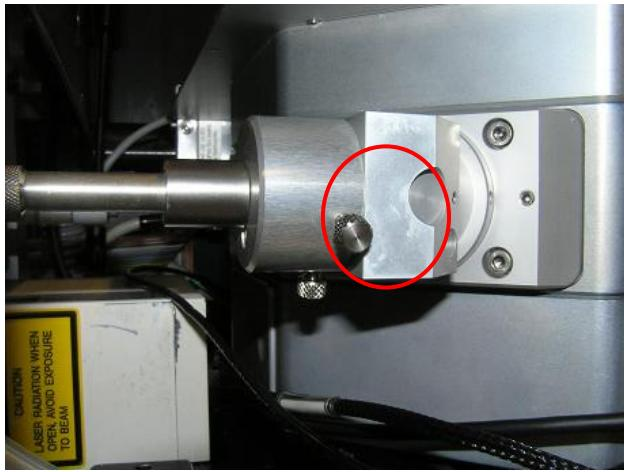
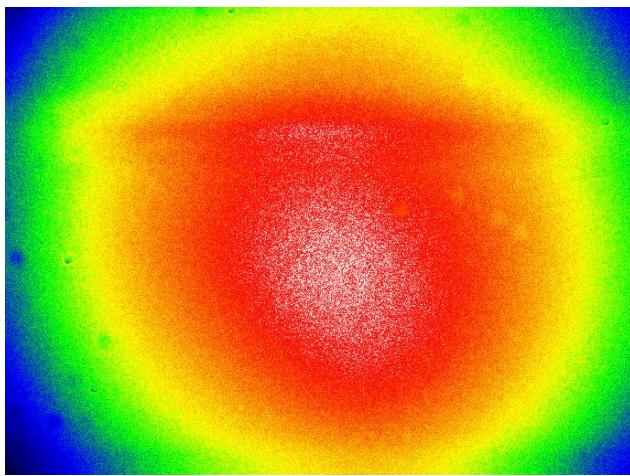

Figure 10: Adjustment screws for excitation (angle)
Figure 11: satisfactory adjustment of UV excitation illumination
- adjust the angle by moving the silver screws on the condenser (see *Figure 10*) until the beam profile is in the middle of the cross hair
- have a look to the dye picture, adjust the illumination by moving the silver screws on the condenser (see Figure 10) until the illumination is centric (see Figure 11)